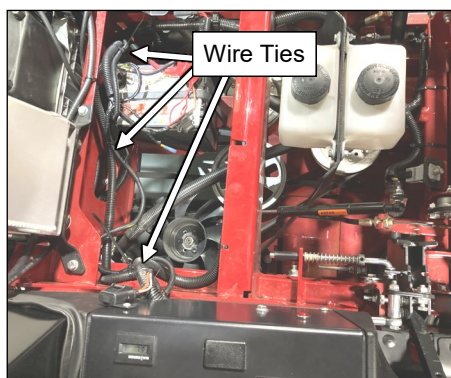

Fig. 6.10 (Secure wires under seat)
- 6.10 See fig. 6.10. Use wire ties to secure the A/C harness inside the cab, keeping wires away from any moving parts, especially the fan and belt.